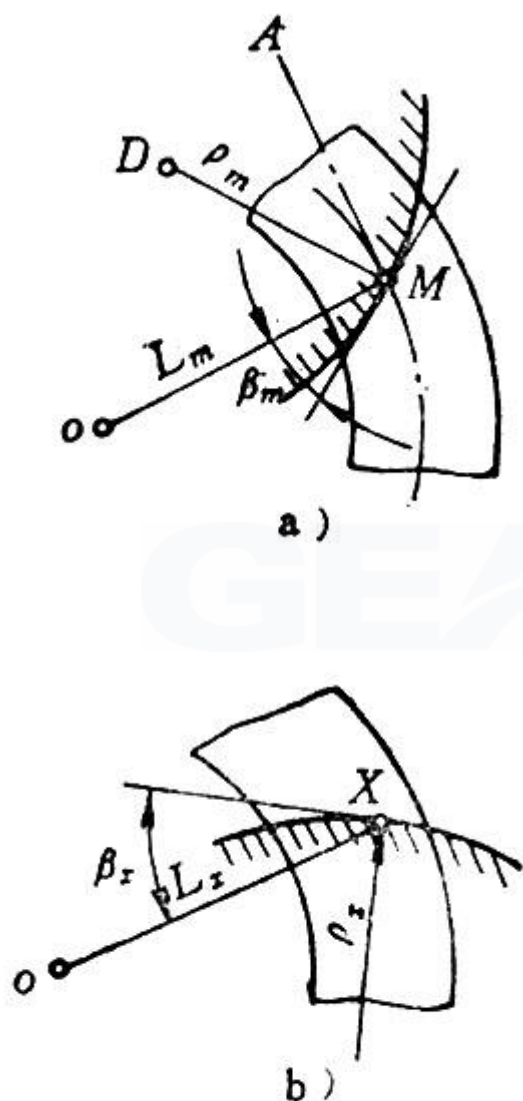

图 5-97
In the imaginary crown wheel of curved tooth bevel gear, if the difference of spiral angle  $\Delta \beta = \beta - \beta' > 0$ , then the tooth trace of this bevel gear is called tooth trace of increasing angle (see Figure 5-97). Alternatively, at the central point (M) of tooth trace, if  $oM \perp MA$ ,  $\angle oMA = 90^\circ$ , and the point M is at the center of curvature and fall in  $\angle oMA$ , then the tooth trace of this curved tooth bevel gear is called tooth trace of increasing angle.